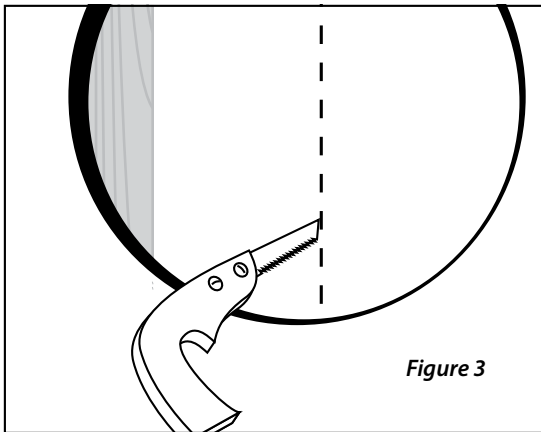

Figure 3
3. Project the edge of the cutout onto the inside of the other wall board in three places, approximately 120° apart. Use a small square or a piece of cardboard that has an exact 90° angle to mark the cutout points on the inside of the other wall. The two circular openings must be accurately aligned. (Figure 3)